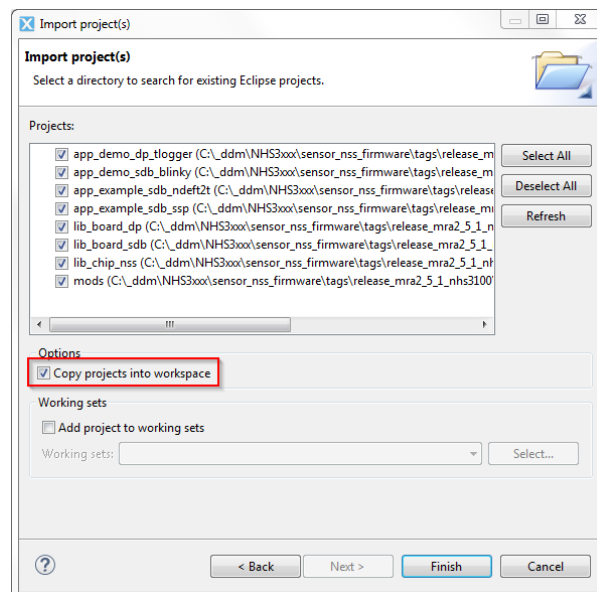

Figure 11: Importing existing projects
- Select the projects found. Usually all projects found are imported – as is done in Figure 11, but *lib_board_dp*, *lib_chip_nss* and *mods* are mandatory to be able to build successfully; import others as you see fit.